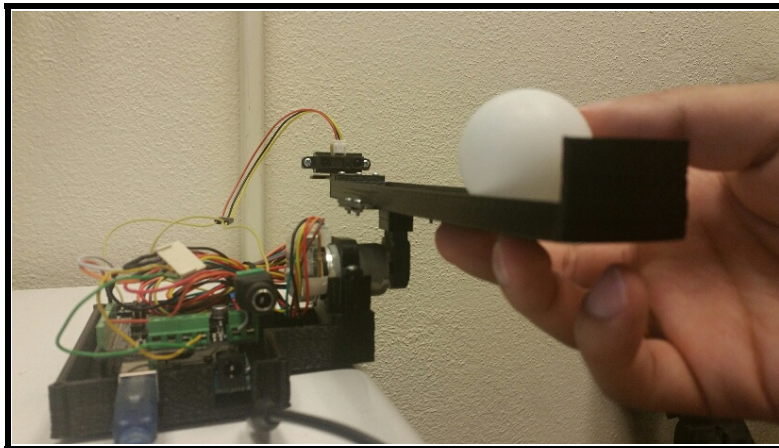

Figure 3.6: Ball Position Example
59. Run the simulation again, but before plugging in the power, set the ball position close to the initial position used in the simulations (0.1m). Keep the beam around 0 radians, and hold it as steady as possible. An example of this is provided in Figure 3.6.